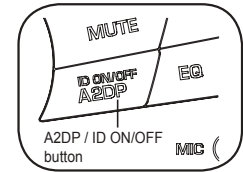

figure 5
1. Press A2DP / ID ON/OFF BUTTON (Figure 5) to switch on A2DP mode with condition of Bluetooth must be paired and connected.